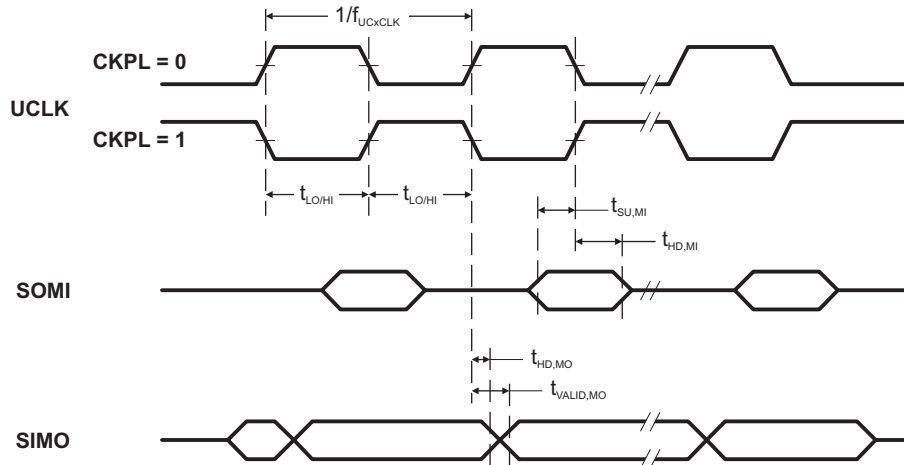
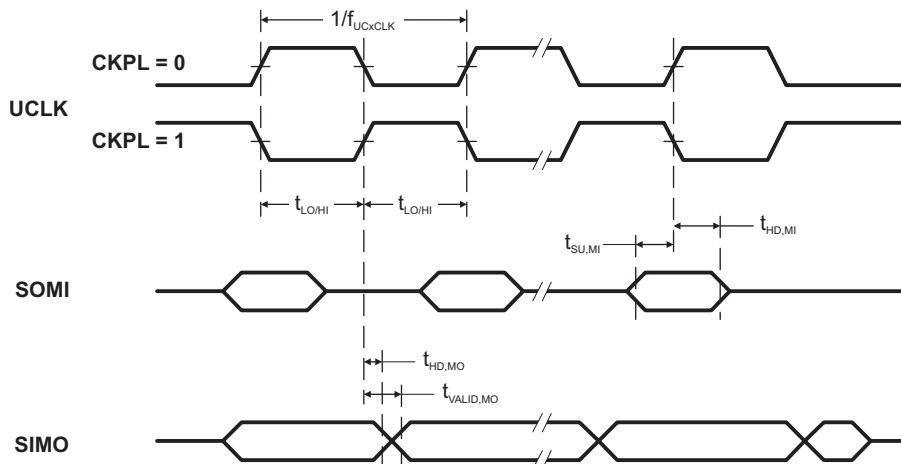

Figure 7. SPI Master Mode, CKPH = 0
Figure 8. SPI Master Mode, CKPH = 1
(see Note (1), Figure 7 and Figure 8)
diagrams in Figure 7 and Figure 8.
(3) Specifies how long data on the SIMO output is valid after the output changing UCLK clock edge. Negative values indicate that the data on the SIMO output can become invalid before the output changing clock edge observed on UCLK. Refer to the timing diagrams in Figure 7 and Figure 8.
- (2) Specifies the time to drive the next valid data to the SOMI output after the output changing UCLK clock edge. Refer to the timing diagrams in Figure 7 and Figure 8.
- (3) Specifies how long data on the SOMI output is valid after the output changing UCLK clock edge. Refer to the timing diagrams in Figure 7 and Figure 8.